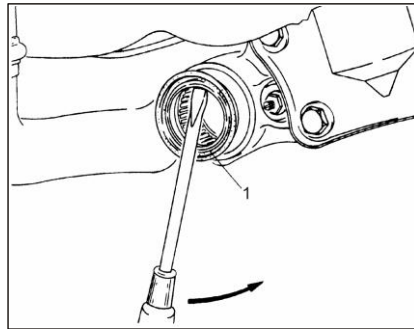

Figure 4-27 Remove Oil Seal
(12) As indicated in Figure 4-27, remove the oil seal 1.